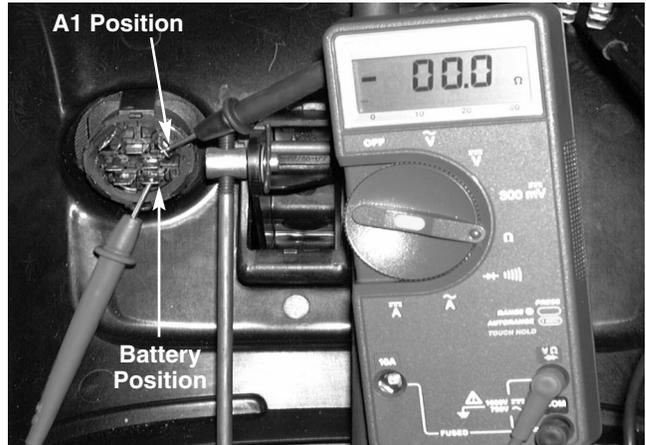

FIGURE 20.
- 4). Turn the key to the **ON** position. Place the test probes on the B and A1 terminals. -There will be **CONTINUITY**. See figure 20.